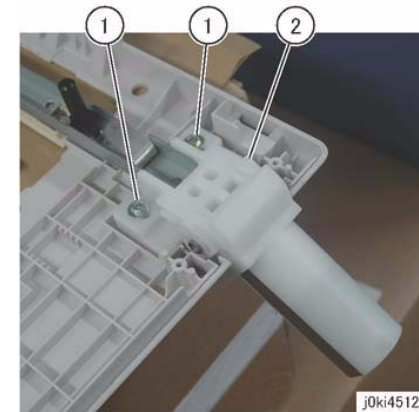

Figure 2 Left Counter Balance
8. Remove the Left Counter Balance. (Figure 2)